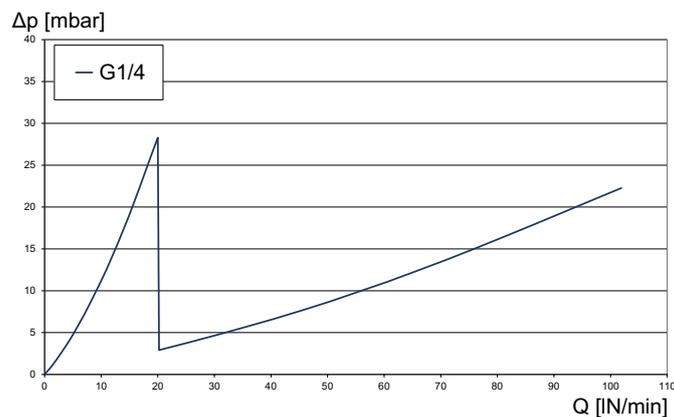

Fig. 6: Pressure loss diagram for air, MFM with a 25-µm mesh filter, flow rate range 0...100 l_N/min
- ▶ If the flow rate is 55 l_N/min then the air pressure-loss P_{air} as given in Fig. 6 is 10 mbar.